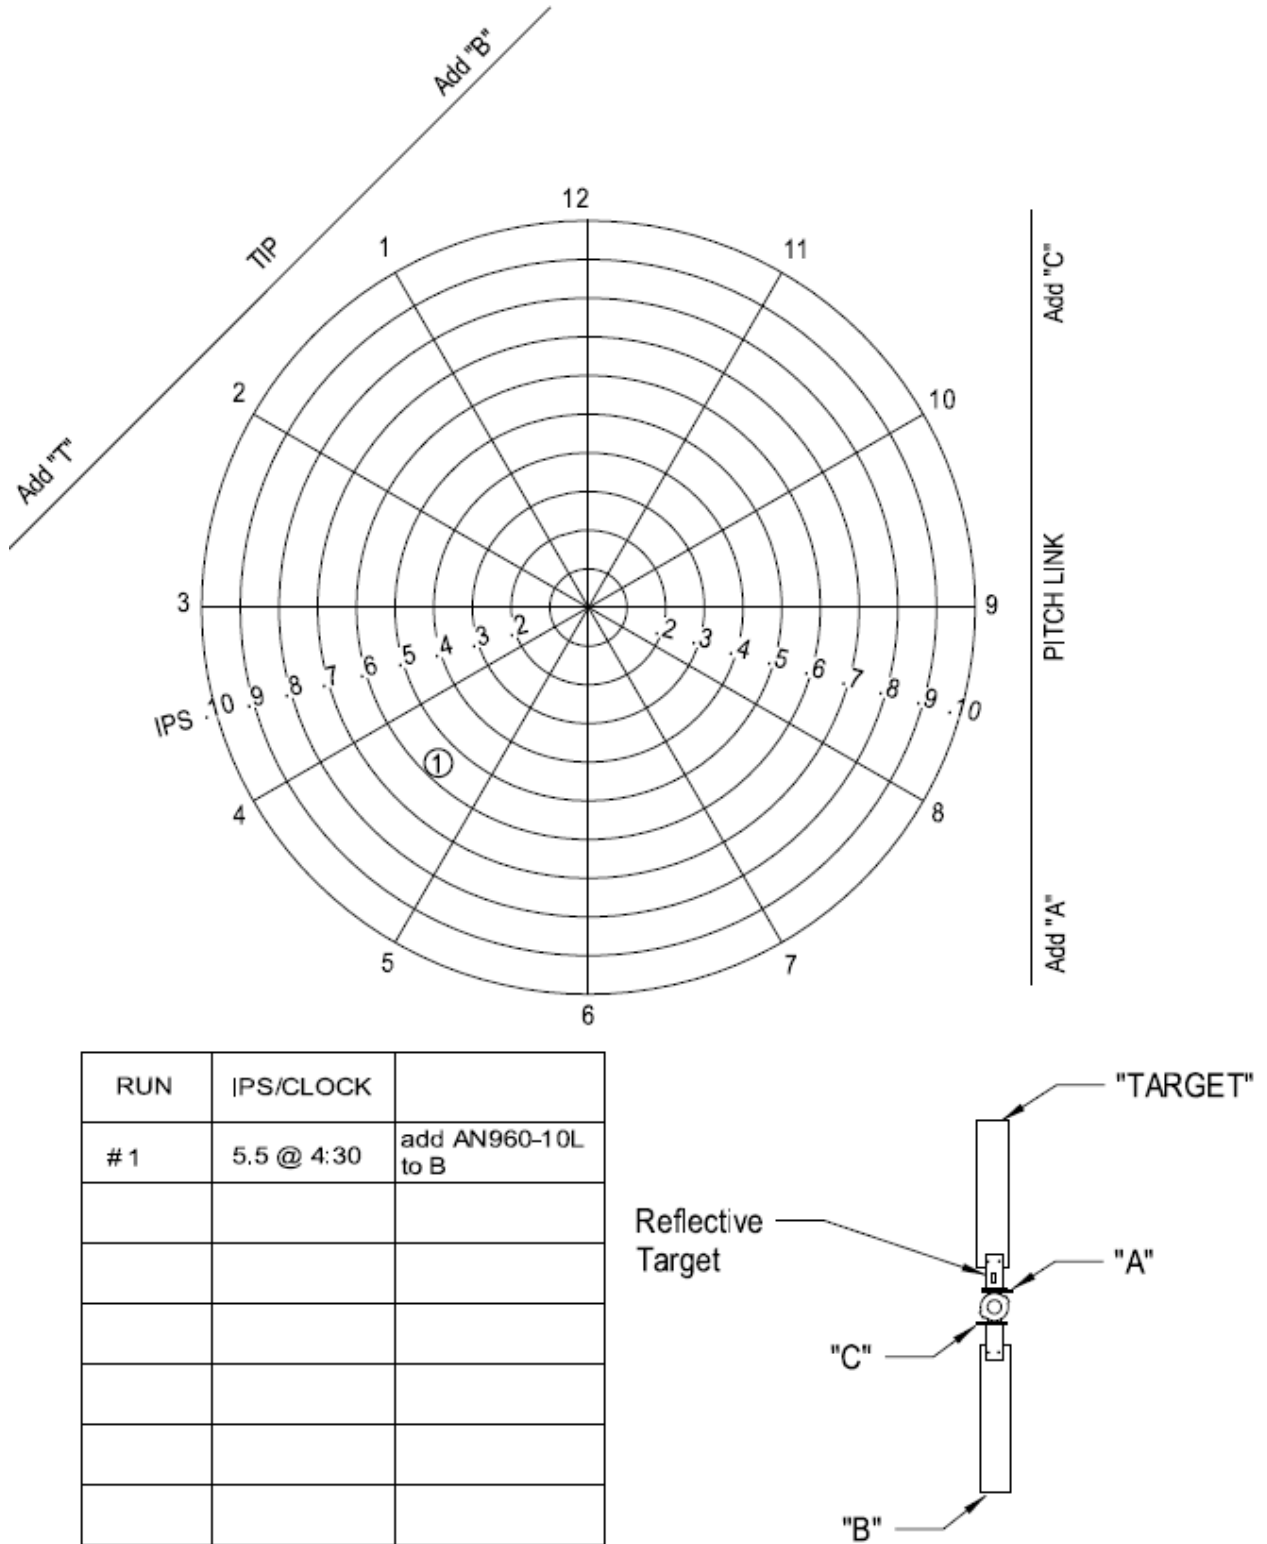
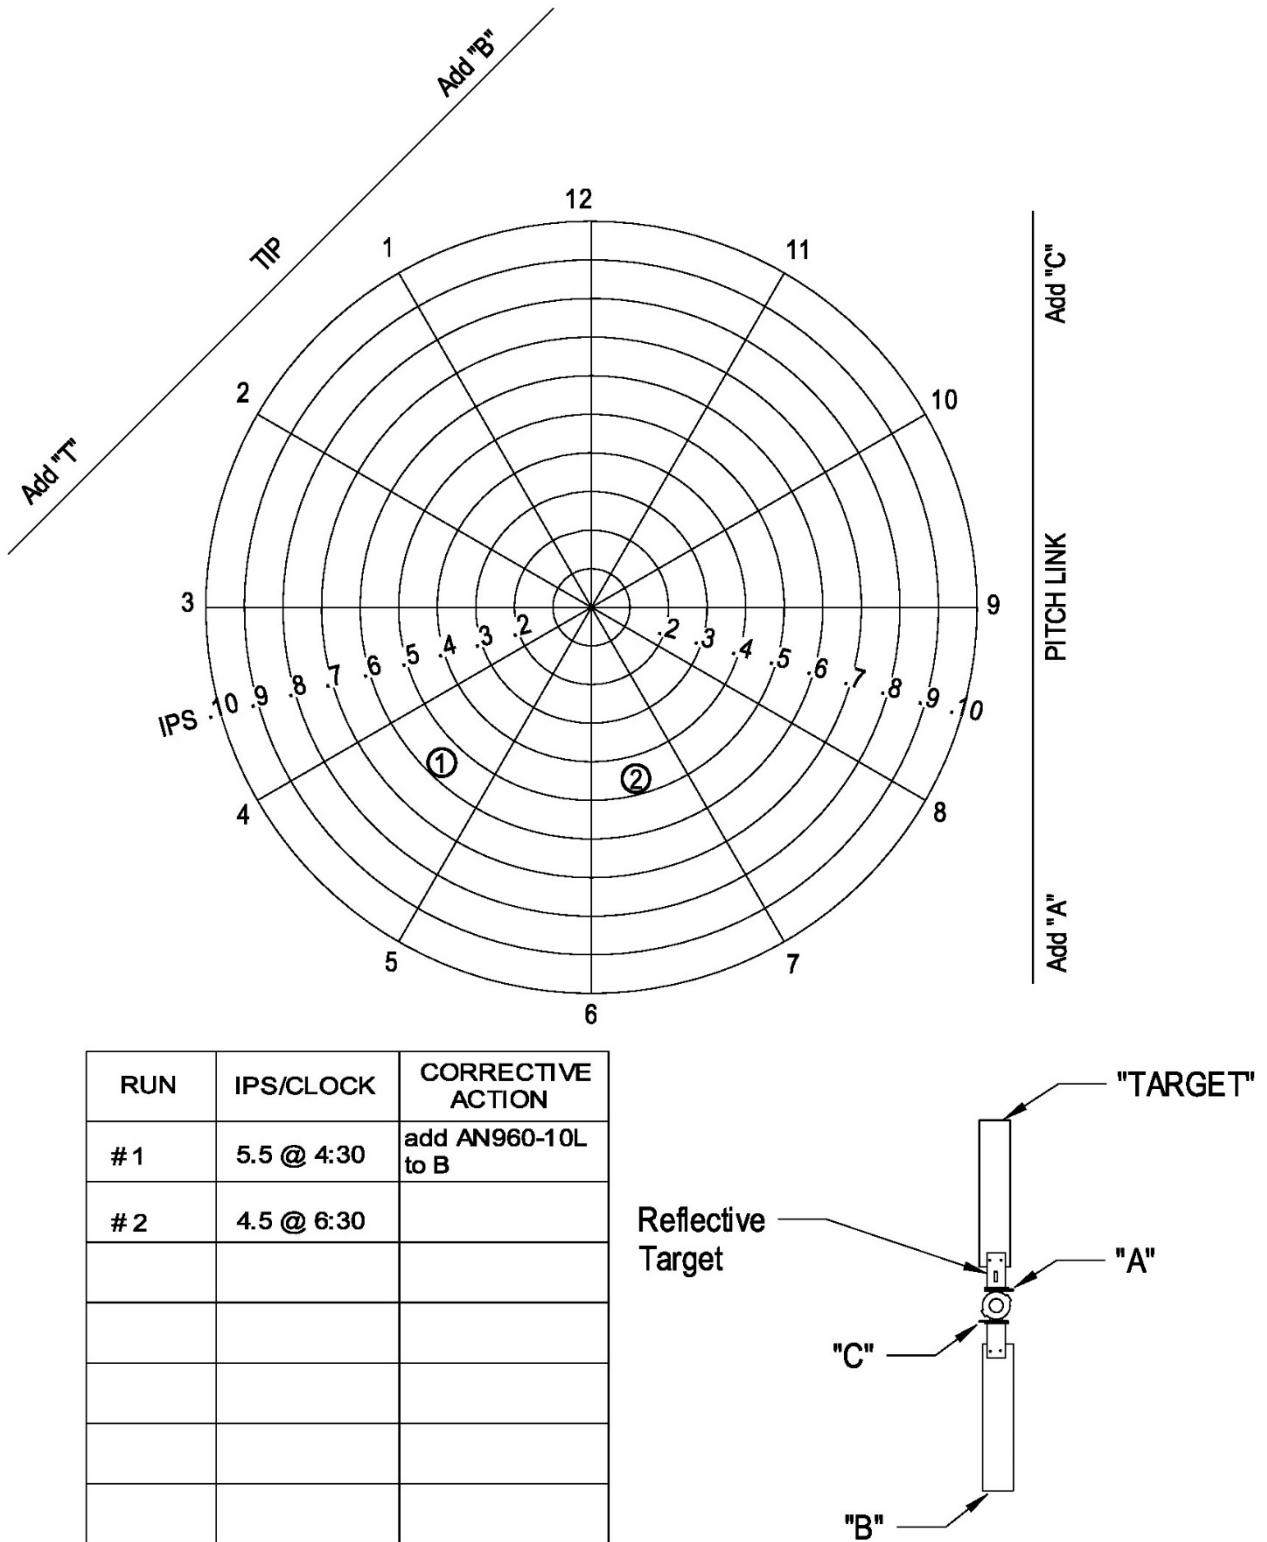

Figure 10-11. Tail Rotor Clock Angle Correction Example
Figure 10-12. Tail Rotor Clock Angle Correction Example
- (1) Obtain ips reading and clock angle using the procedure in Para. B.
- (2) As an example, the following results were obtained: Run 1, ips .55 @ 4:30 clock angle.
- (3) Plot Run 1 on the tail rotor polar chart (Fig. 10-11).
- (4) Add a small washer (AN960-10L) to the tip at "B".
- (5) Run helicopter again and record the ips reading and clock angle. In this example the following results were obtained: Run 2, 4.5 ips @ 6:30 clock angle.
- (6) Plot Run 2 on the chart (Fig. 10-12).
- (7) Since the move line between Run 1 and Run 2 did not follow the chart in the expected direction, a correction must be made to the positions of the tip weight line and pitch link weight line relative to the clock orientation.
- (8) Drawn a line between plot 1 and plot 2. Label the line "add B".
- (9) Rotate tip weight line approximately 45° clockwise to reflect the actual results of the first weight change.